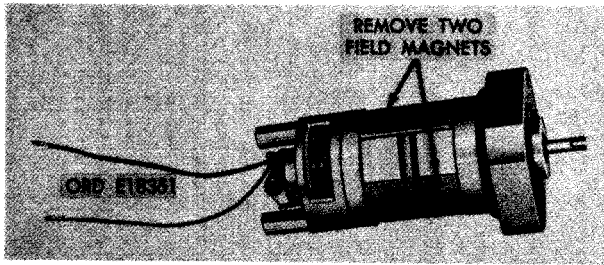

FIGURE 424. REMOVING OR INSTALLING FIELD MAGNETS.
(4) Remove field magnets (fig. 424).